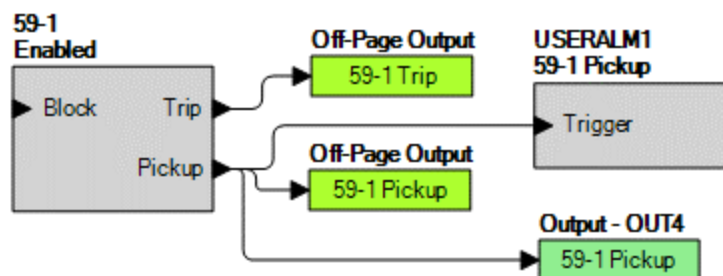

Figure 2-19. OUT4 and USERALM1 with User-Defined Labels
- Step 13: Figure 2-19 shows the user-defined labels of OUT4 and USERALM1 that were named in Steps 11 and 12.